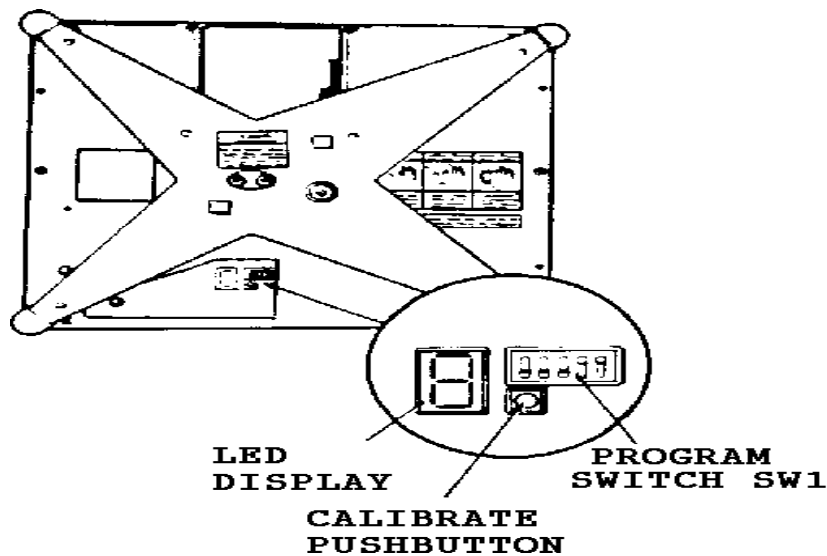

Figure 3 - Setup Switches
The 8213 PCB contains a five position program switch. These switches should be set prior to applying AC power. See Figure 3.
There is an LED display located next to the programming switches that is used to display prompting letters for calibration as well as certain error codes. It should now show a "0" indicating all power up diagnostic tests have been passed. See Figure 3.
3.4.5 Place the empty platter upside down on top of the spider. Depress the Calibrate push-button (Figure 3) until the letter "E" begins flashing then release.